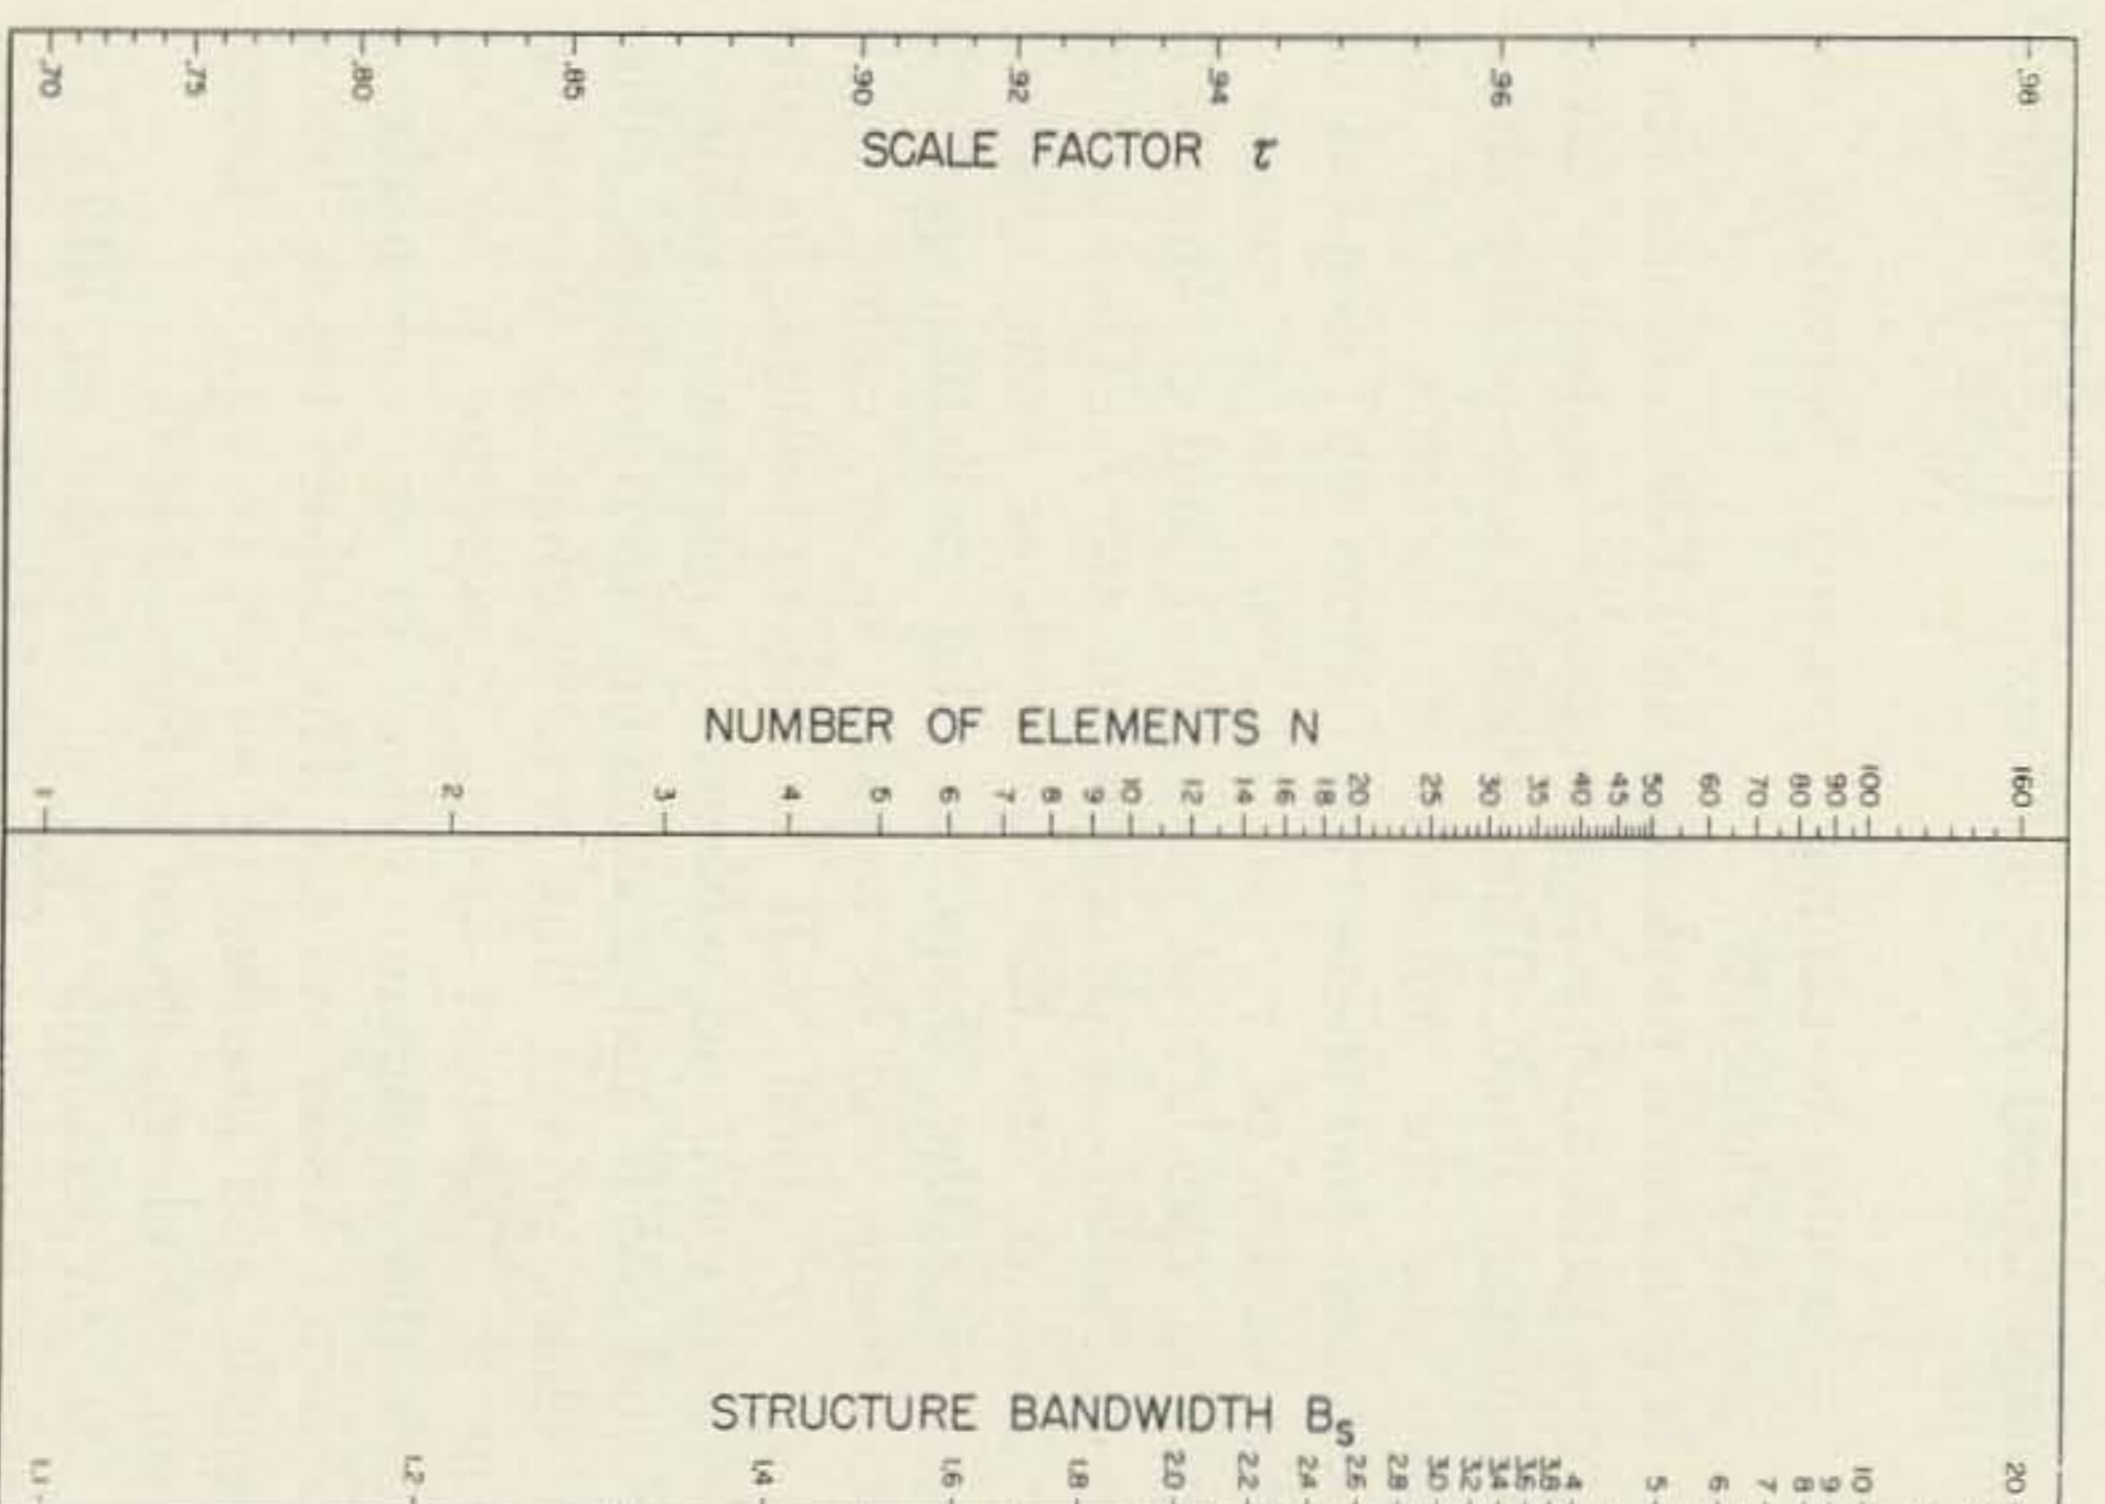

Fig. 6.
e. From Fig. 6, number of elements = 4.